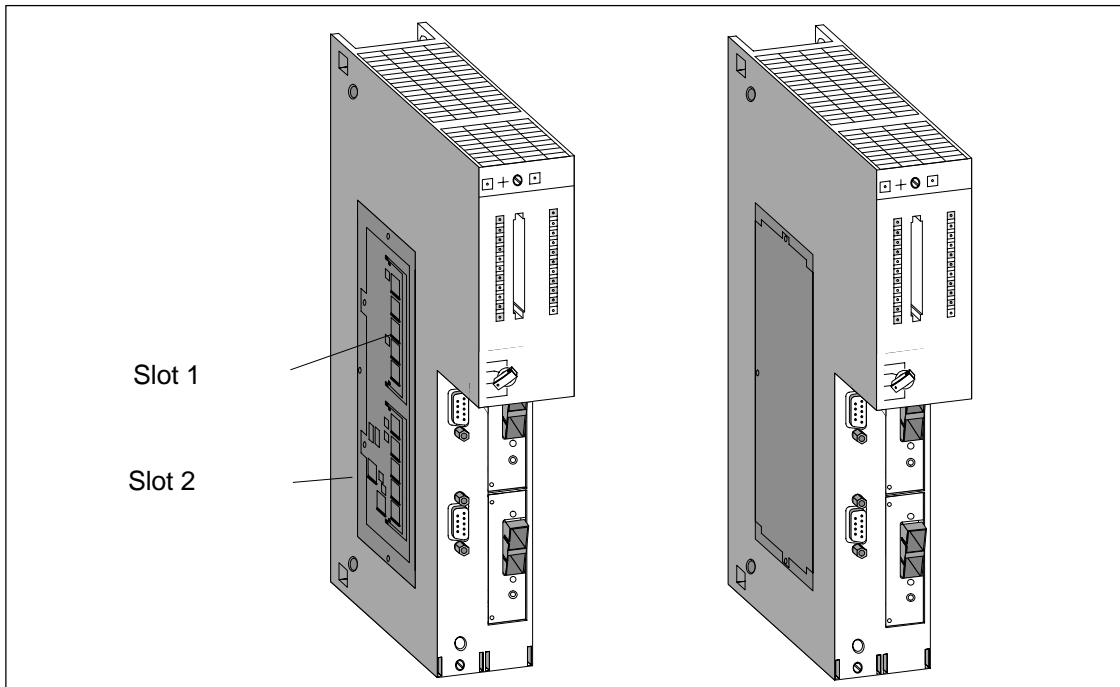

Figure 7-1 Fitting Memory Cards in the CPUs
2. Push the first memory card down through an angle of approximately 45° into slot 1 (see Figure 7-1). Note the cutout at the front of the card (polarity reversal protection).
4. If necessary, insert the second memory card in slot 2 in the same way (see Figure 7-1).